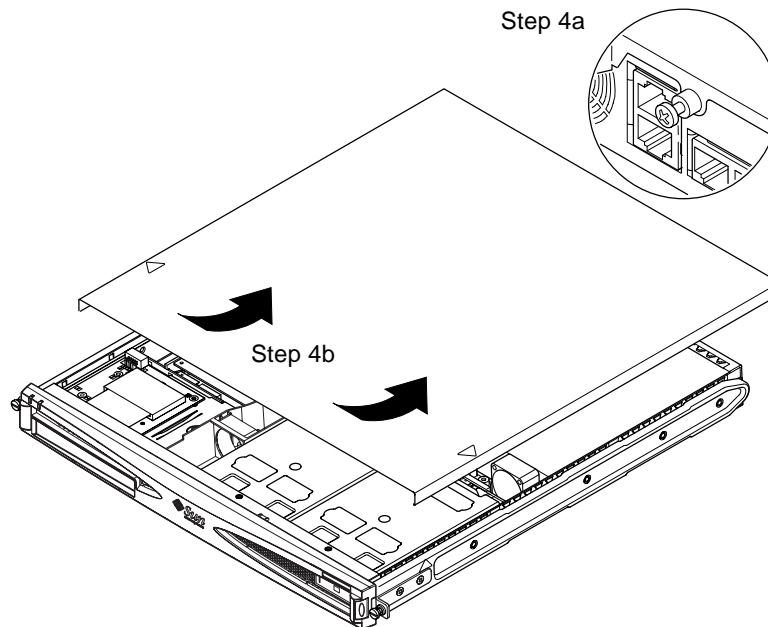

FIGURE 4-3 Removing the Top Cover
4. **Remove the server's top cover (see FIGURE 4-3):**
- a. **Undo the captive screw at the rear center of the unit (see FIGURE 4-3).**
- b. **Slide the top cover back and lift it off (see FIGURE 4-3).**